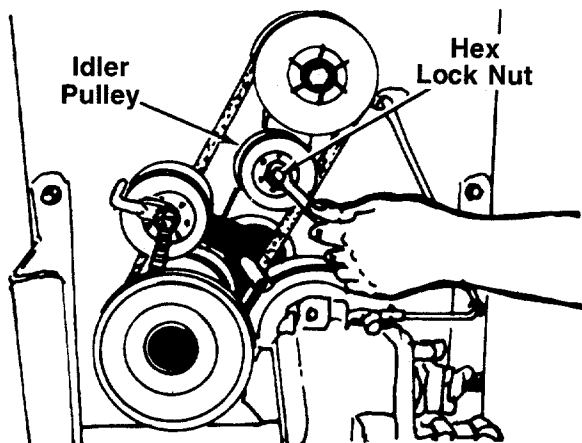

FIGURE 21.
- Remove the idler pulley by removing the hex lock nut. See figure 21.